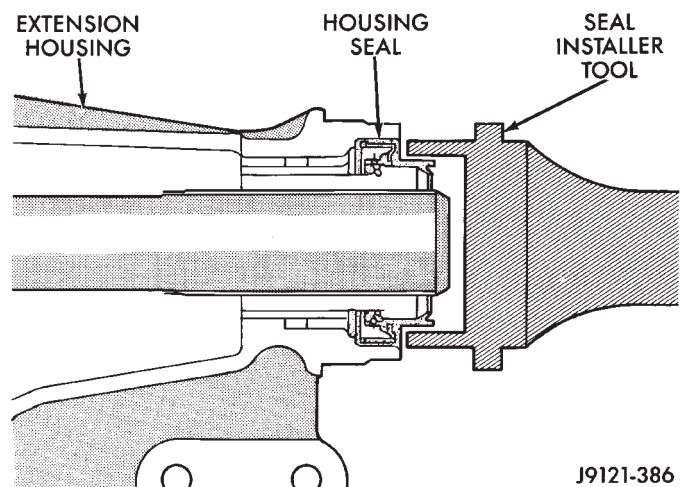

Fig. 129 Installing Extension Housing Seal
(33) Install new washer on fill plug. Then install and tighten plug to 37 N•m (27 ft. lbs.) torque.
(34) Install clutch housing and hydraulic concentric bearing.
(35) On models with extension housing, install new seal in housing with suitable size installer tool (Fig. 129). Lubricate seal lips with petroleum jelly before installation.
(36) On models with extension housing, install speedometer driven gear, speedometer adapter and speed sensor.